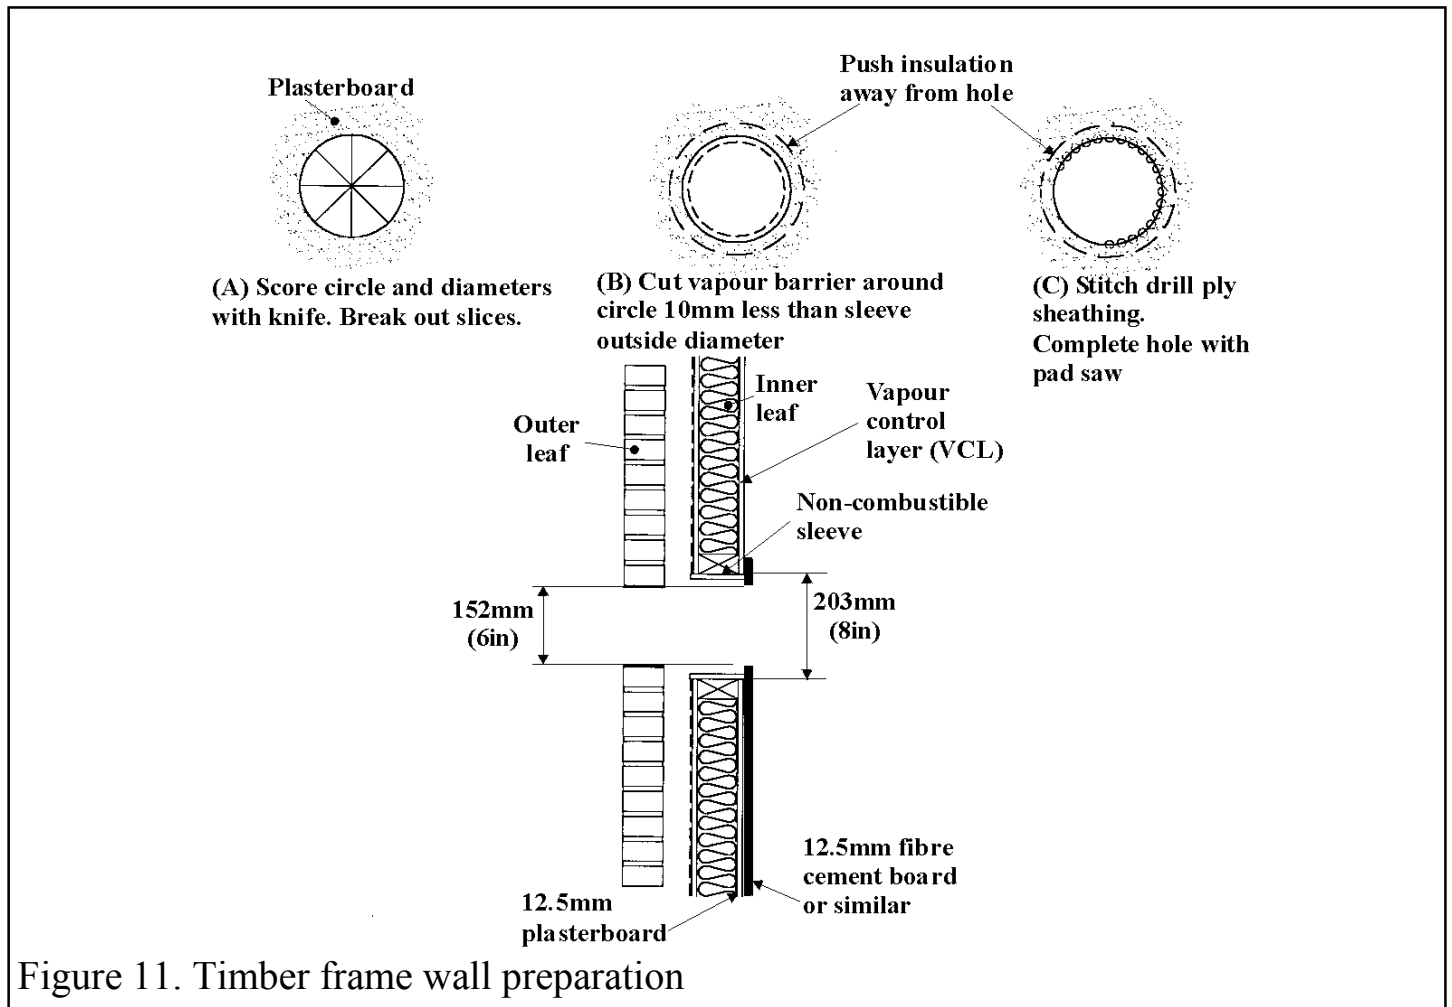

Figure 11. Timber frame wall preparation
- Since the flue will pass through combustible material in the inner leaf of the wall, a non-combustible sleeve 203mm (8in.) diameter will be required round the flue. See figure 11. A Timber frame flue clearance kit is available. Part no. 0583141
- Cut a hole through the inner leaf to accommodate a non-combustible sleeve 203mm (8in.) outside diameter. To minimise the effect of breaking through the vapour control layer (VCL), if possible, cut the hole approximately 10mm undersize so that the sleeve will be forced through the layer. A recommended technique for cutting the inner leaf is shown in figure 11.